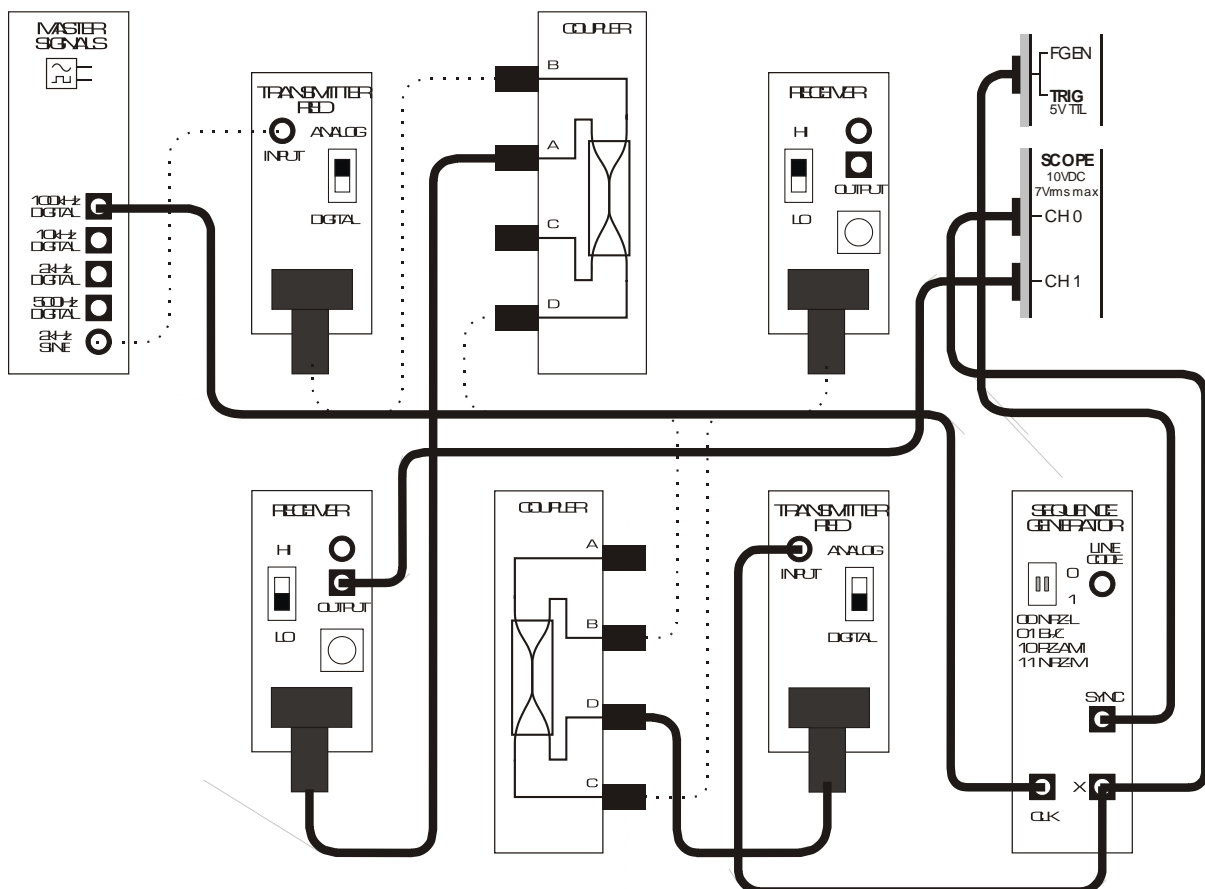
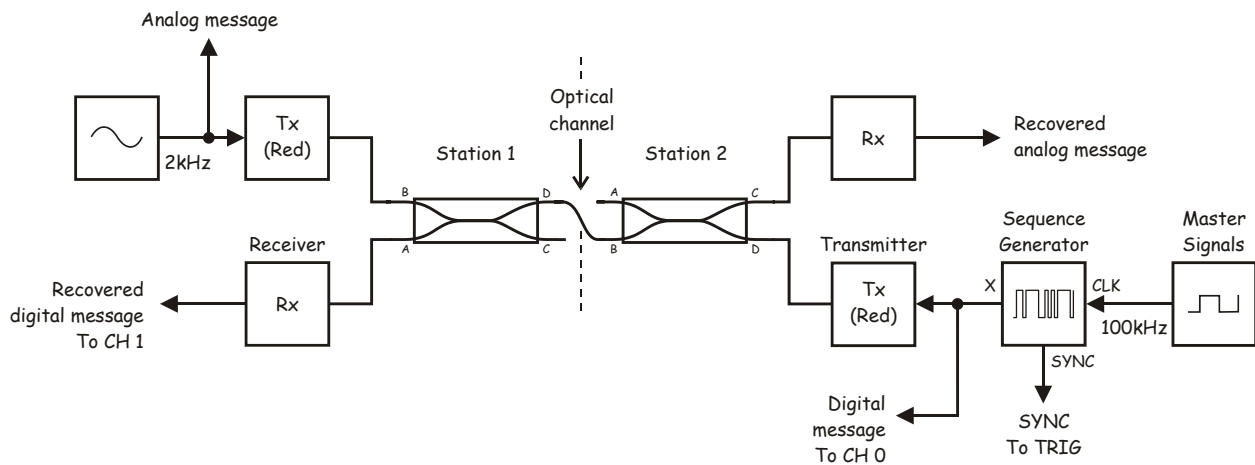

Figure 4: Bi-directional channel patching diagram
Figure 5: Bi-directional channel block diagram
19. Modify the set-up as shown in Figure 4 below. **NOTE: use the longest fiber patchcord for the CHANNEL connection D-1 to B-2**
The set-up in Figure 4 can be represented by the block diagram in Figure 5 below. Both stations can now transmit and receive information. For contrast, the Station 2 message is a digital data signal modeled by the Sequence Generator module with a 100kHz bit-clock. The channel (modeled by the optical patch lead between the left and right couplers) now carries information in both directions.
The changes to the scope's connections return the set-up to the block diagram in Figure 5.